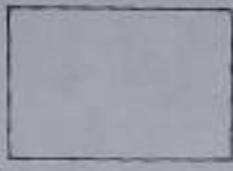

Fig. 5
6. (a) Figure 5 shows three incomplete views of the object. Copy the given views and add the missing lines on the plan. Take dimensions from the given views.